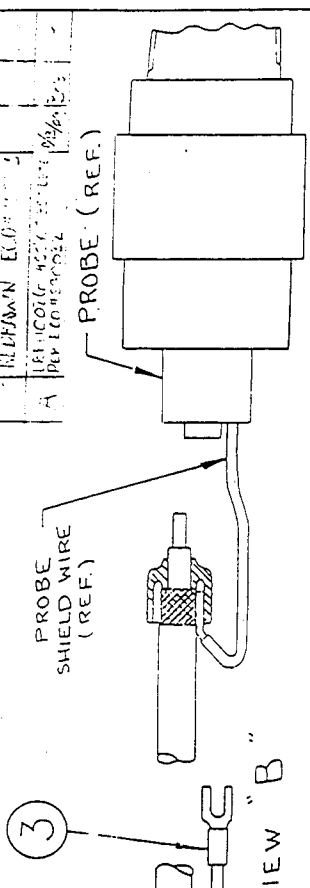

FIGURE 3 (BOTH ENDS)
- 4) INSERT TERMINALS (ITEM #4) ON CENTER CONDUCTOR OF CABLE. (BOTH ENDS). CRIMP USING HAND CRIMP OR RATCHET TOOL. SEE FIG. 3.